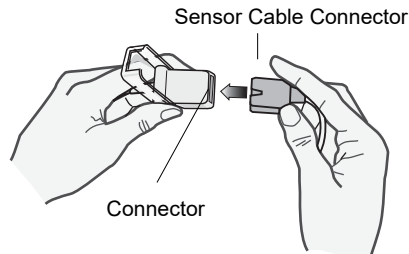

Figure 10-1 Plug the Sensor Connectors Together
- If you are using the two-piece patient cable, lift the clear plastic protective cover from the female end of the extension cable, then plug the sensor cable's male connector into the extension cable connector -- make sure that the plug is all the way into the connector (see Figure 10-1).